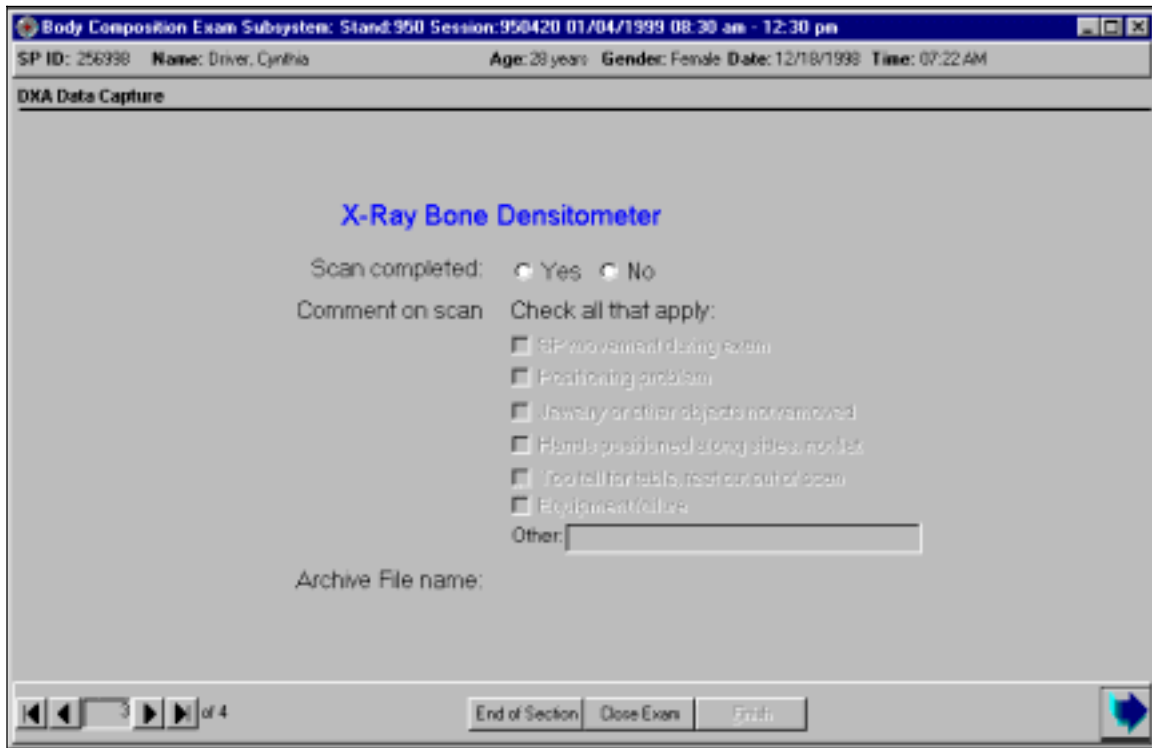

Figure 4-24. DXA data capture (1)
- Figure 4-24 is the ISIS DXA data capture screen.